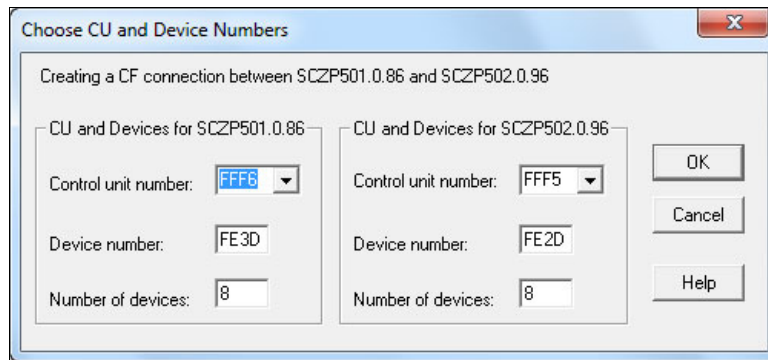

Figure 5-31 HCM - Choose CU and Device Numbers: creating a CF link
20. HCM now suggests control unit and device addresses. Accept or override the control unit and device numbers, then click **OK** (Figure 5-31).